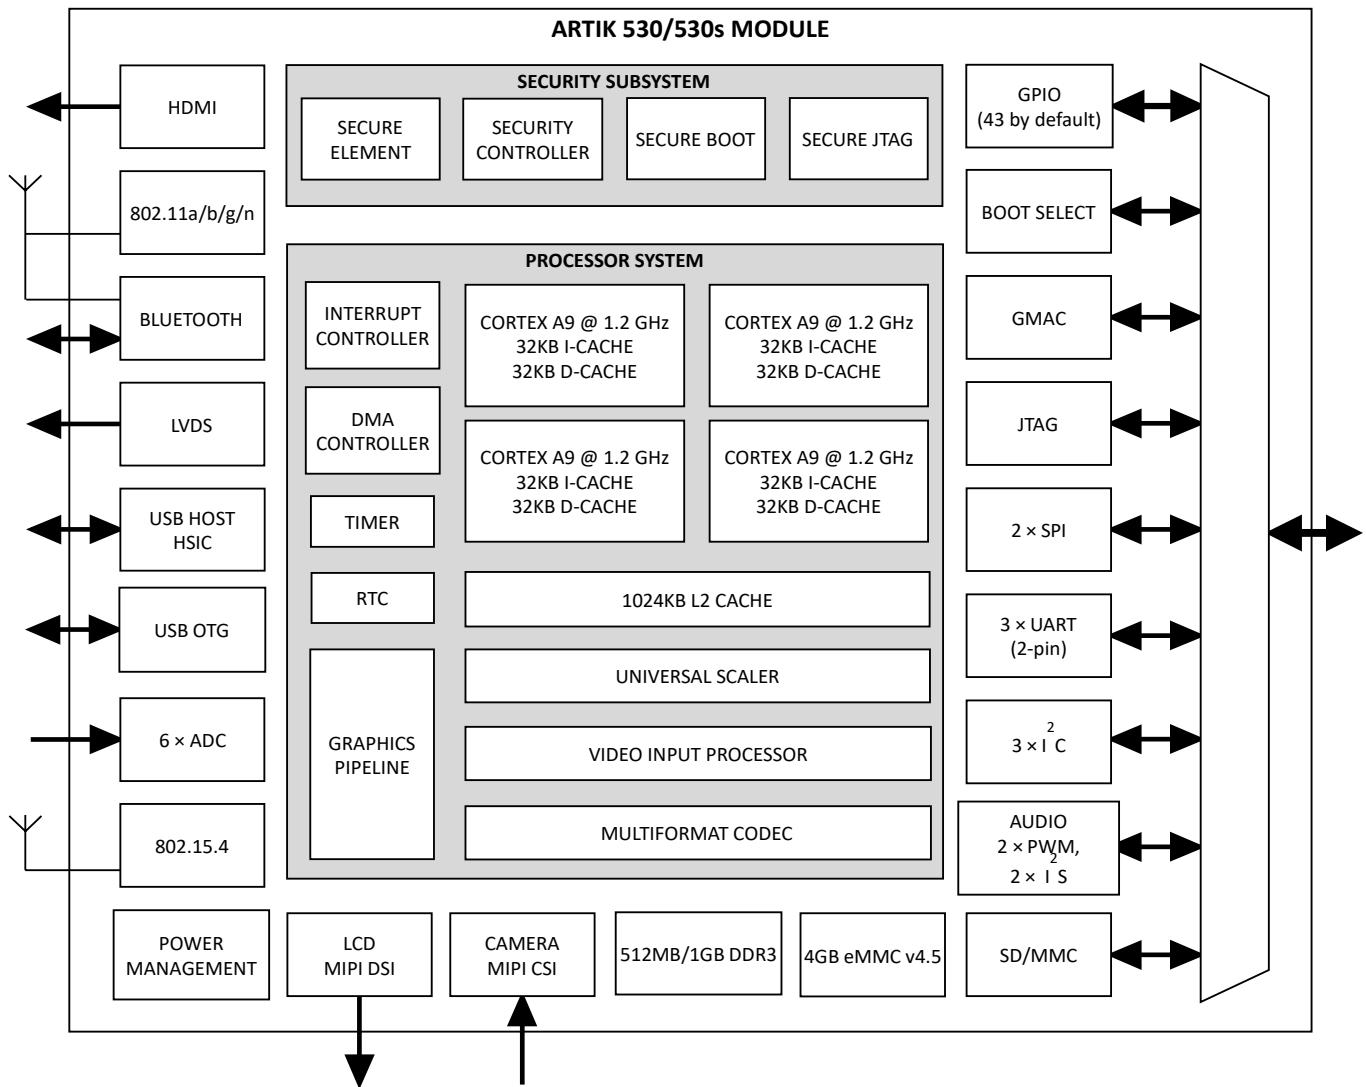

Figure 2. ARTIK 530/530s Module Functional Block Diagram
*Figure 2* shows the functional block diagram of the ARTIK 530/530s Module. It consists of a quad-core ARM® Cortex®-A9 application processor with 512MB or 1GB of DDR3 and 4GB eMMC Flash, PMIC power management, Security Subsystem, 802.11 for Wi-Fi®, Bluetooth®, 802.15.4 for Zigbee, and RF connectors.
The following subsections describe the functions of the various ARTIK 530/530s Module blocks depicted in Figure 2.